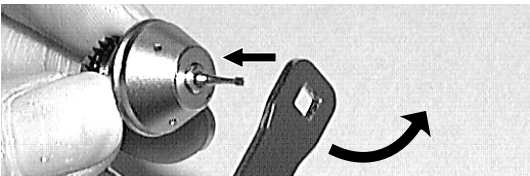

Fig.16
- (1) Remove the cartridge.
- (2) Hold down the rotor, mount the attached wrench provided on the wrench-mounting at the end of the rotor shaft and turn in the direction of arrow in Fig.16. Either a wrench having a square hole or U-shaped hole can be used.